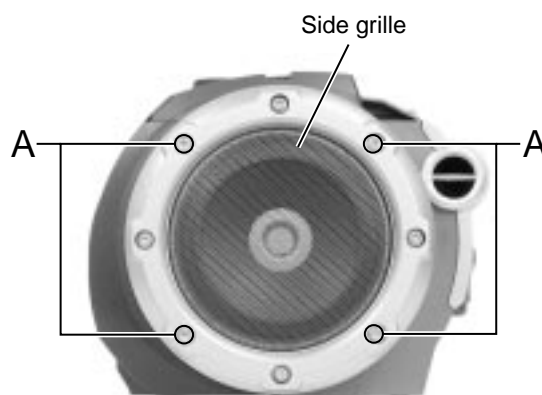

Fig.1
■ Removing the side grilles (See Fig.1)